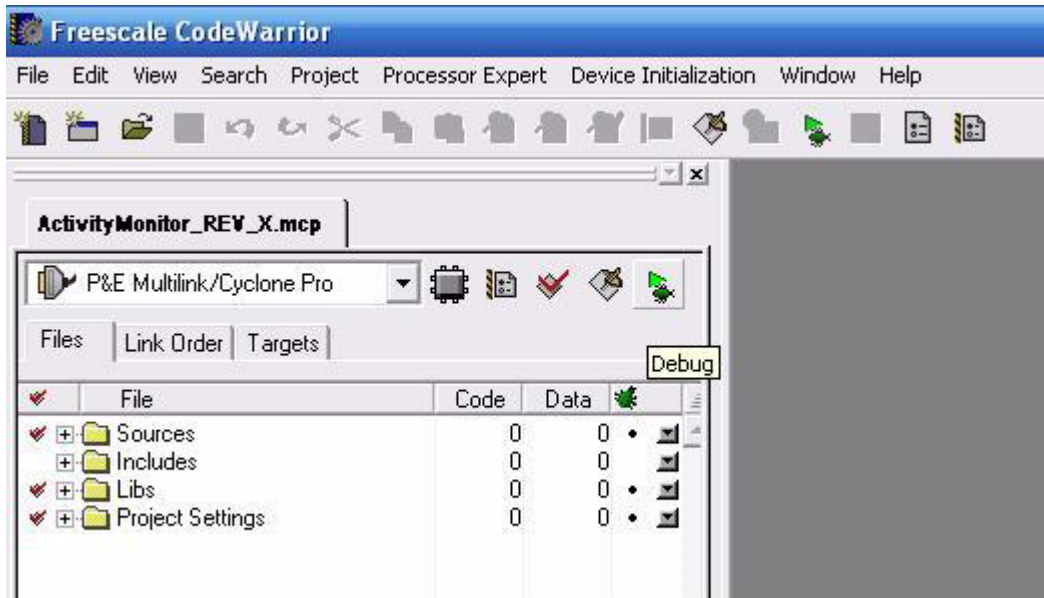

Figure 3-2. IDE configuration
5. Now you are ready to open a CodeWarrior project "ActivityMonitor\_REV X.mcp". Make sure the debug mode is set to "P&E Multilink/Cyclon Pro" and that you have the same values for the options as shown in Figure 3-2. Click on "Debug" under Project in the menu bar, or hit F5. The "P&E MCF51MMxx Connection Manager" window should appear.